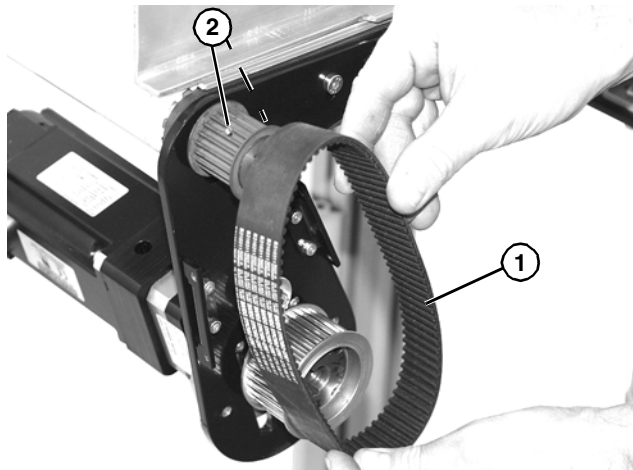

Figure 52
3. Remove timing belt (**Figure 52, item 1**).
*If timing belt does not slide over pulley flange, loosen driven pulley set screws (**Figure 52, item 2**) and remove pulley with belt (**Figure 52, item 1**). For re-installation, see "Timing Belt Replacement (2200 Series)" on page 51 steps 3 through 8 on page 6.*